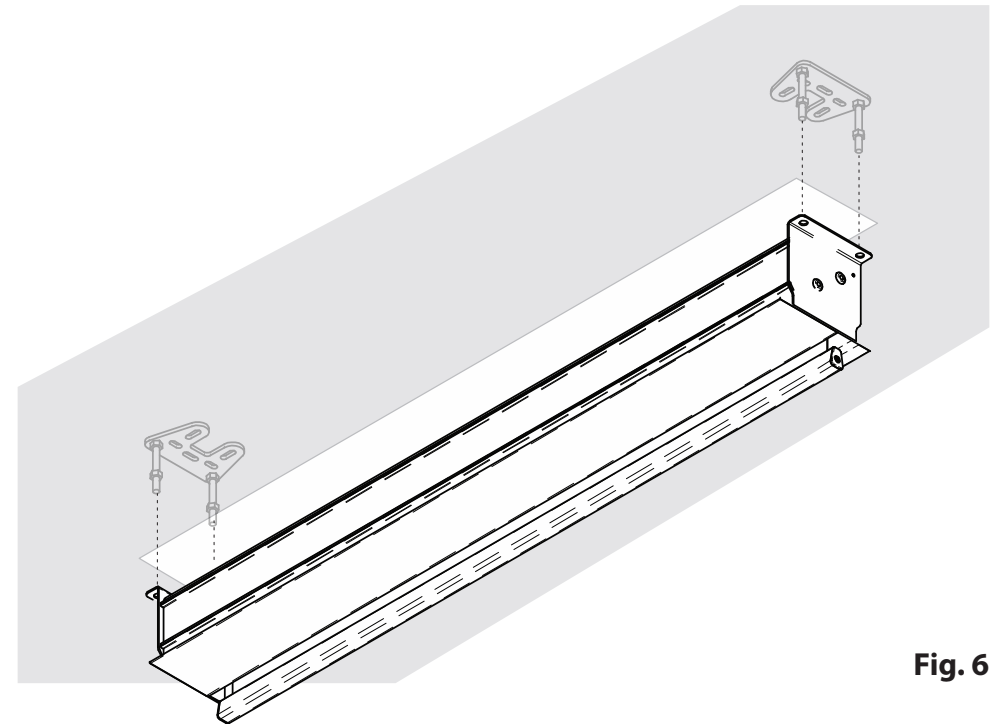

**Fig. 5A**
9. Before installing a screen cassette lead a power cable to the place of assembly and then connect it to the screen according to scheme A (**Fig. 5A**) or according to diagram B (**Fig. 5B**), if the wall switch is not installed.